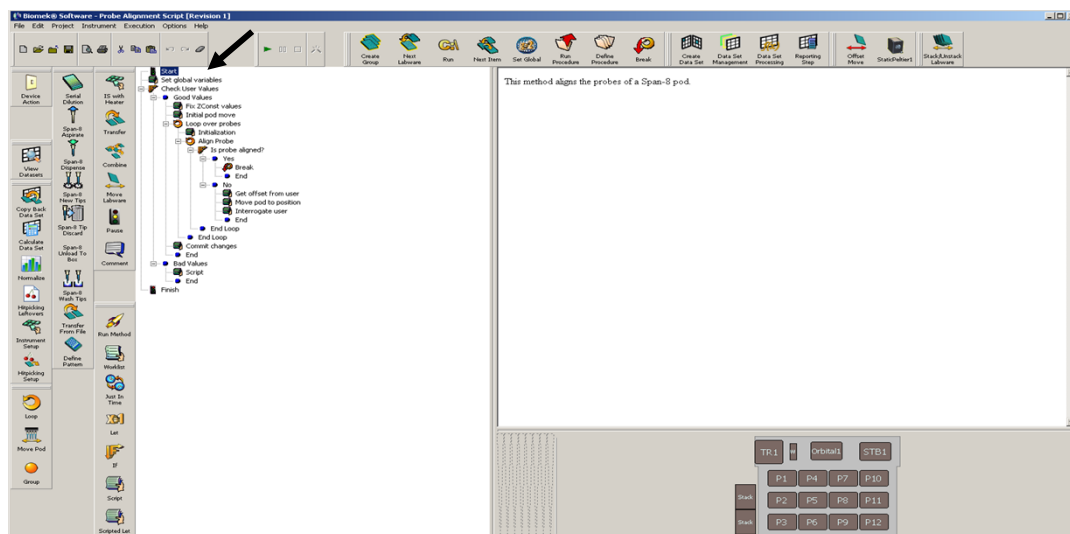

Figure 2. Initiating the Probe Alignment Script method.
- 9 Initiate the method by clicking on the green arrow, shown in Figure 2.